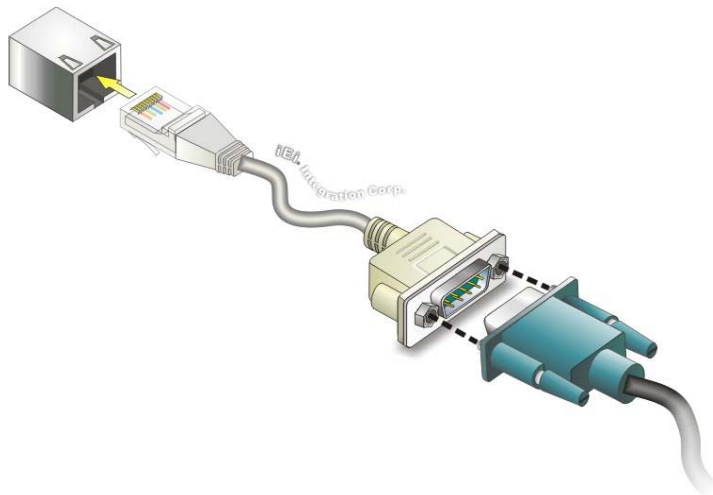

Figure 4-22: RJ-45 Serial Port Connector
- Step 2:** Connect the RJ-45 to COM port cable to the panel PC. Insert the RJ-45 connector end of cable into the RJ-45 serial port. See **Figure 4-22**
- Step 3:** Connect the serial device. Connect a serial device to the DB-9 connector end of the cable. See **Figure 4-22**